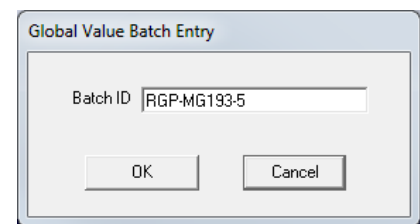

Figure B.15.1 GV_GetBatch Prompt
- 2) Batch Description (optional): *Any text may be specified for the batch description. If this parameter is omitted the dialog shown in Figure B.15.1 is displayed to allow the analyst to enter the Batch identifier. If a Batch Description is specified then the dialog is not displayed.*